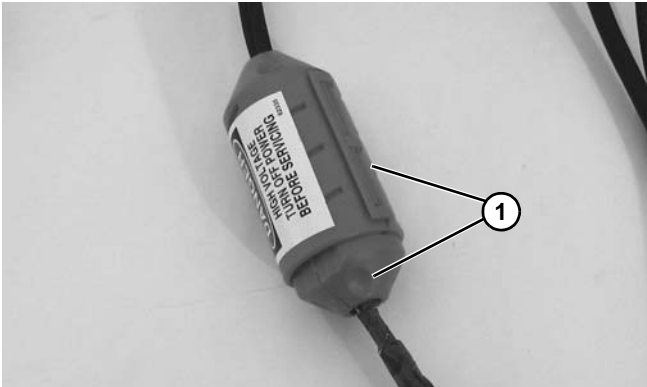

Figure 23
1. Twist covers (Figure 23, item 1) apart.